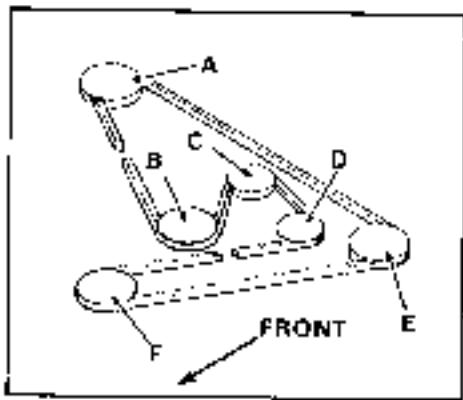

Figure 24. Mower Belt Pattern
7. Install the new belt on the pulleys. The belt pattern is shown in figure 24. Notice that the "V" side of the belt drives the V-pulleys and flat side of belt rides on the flat idler pulleys. Be sure there are not twists in the belt. Reinstall and tighten the belt steps.